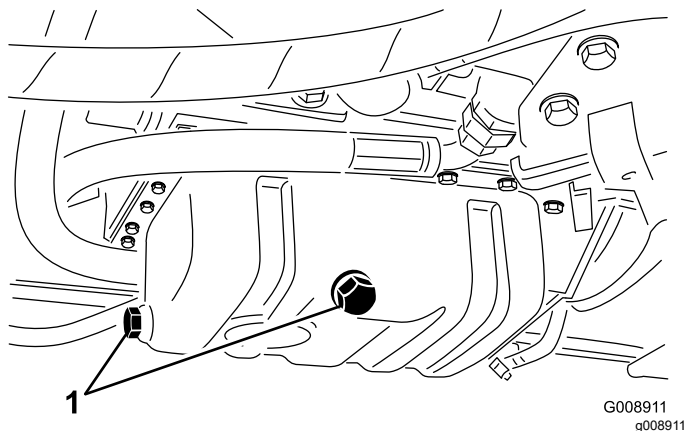

Figure 68
3. Remove either drain plug (Figure 68) and let the oil flow into a drain pan; when the oil stops flowing, install the drain plug.